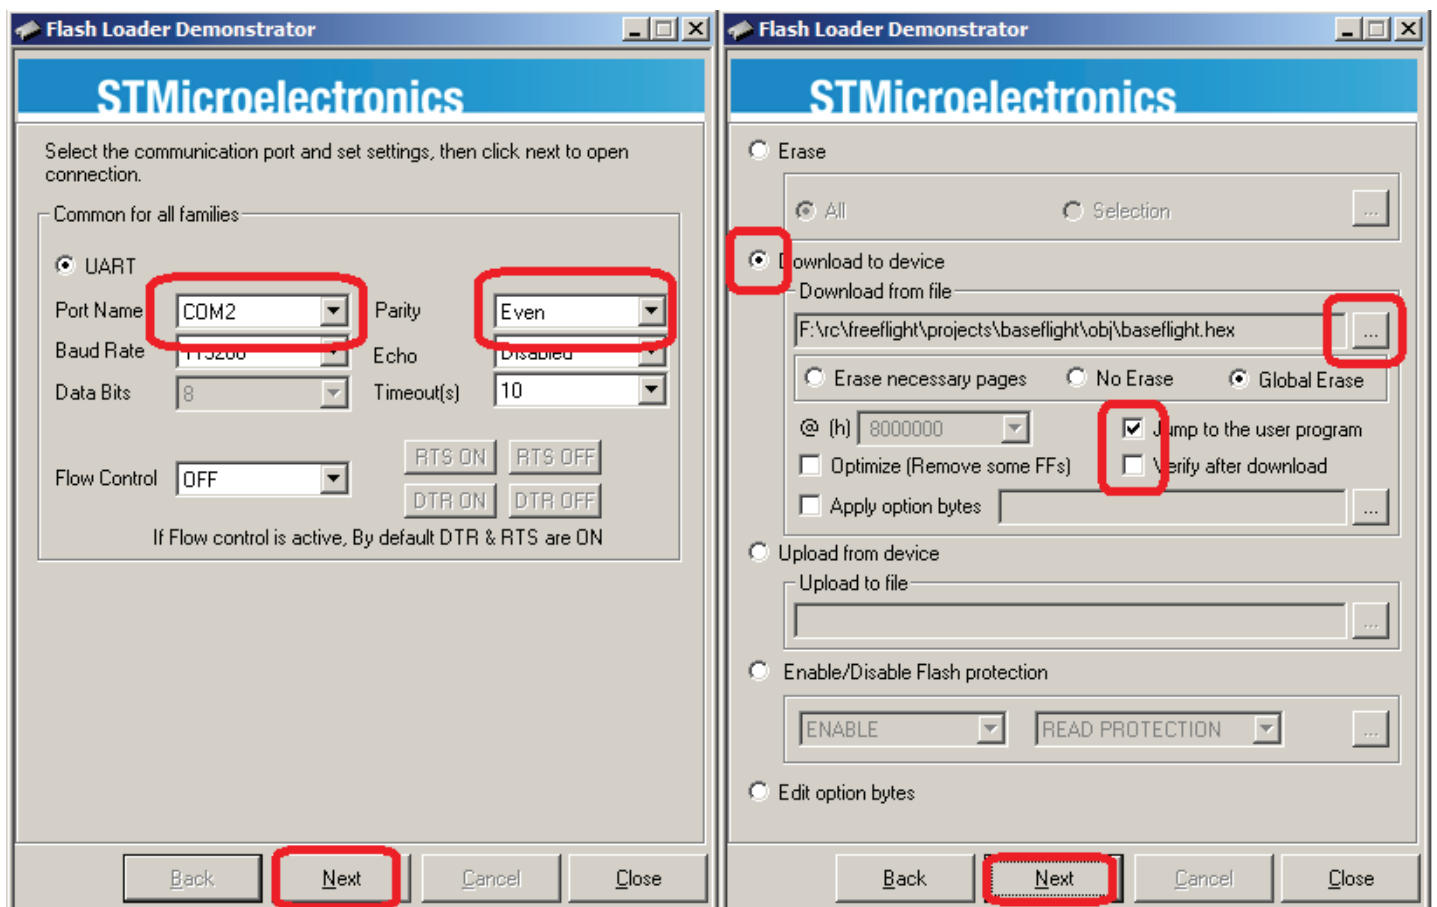

Fig. 7 Flash Loader Demonstrator
4. On the last page (see Fig 7 Flash Loader), choose: